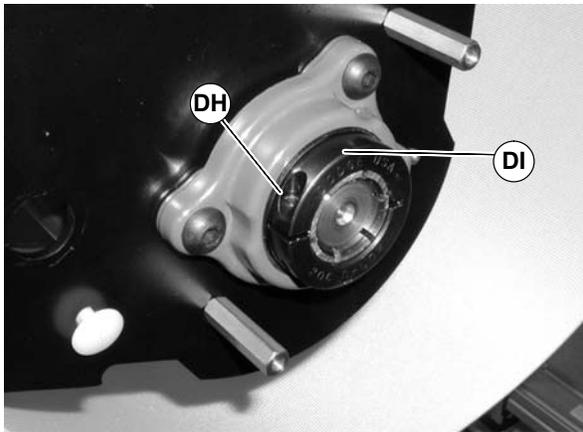

Figure 100
9. Loosen clamp screw (DH of Figure 100) and remove bearing collar (DI).